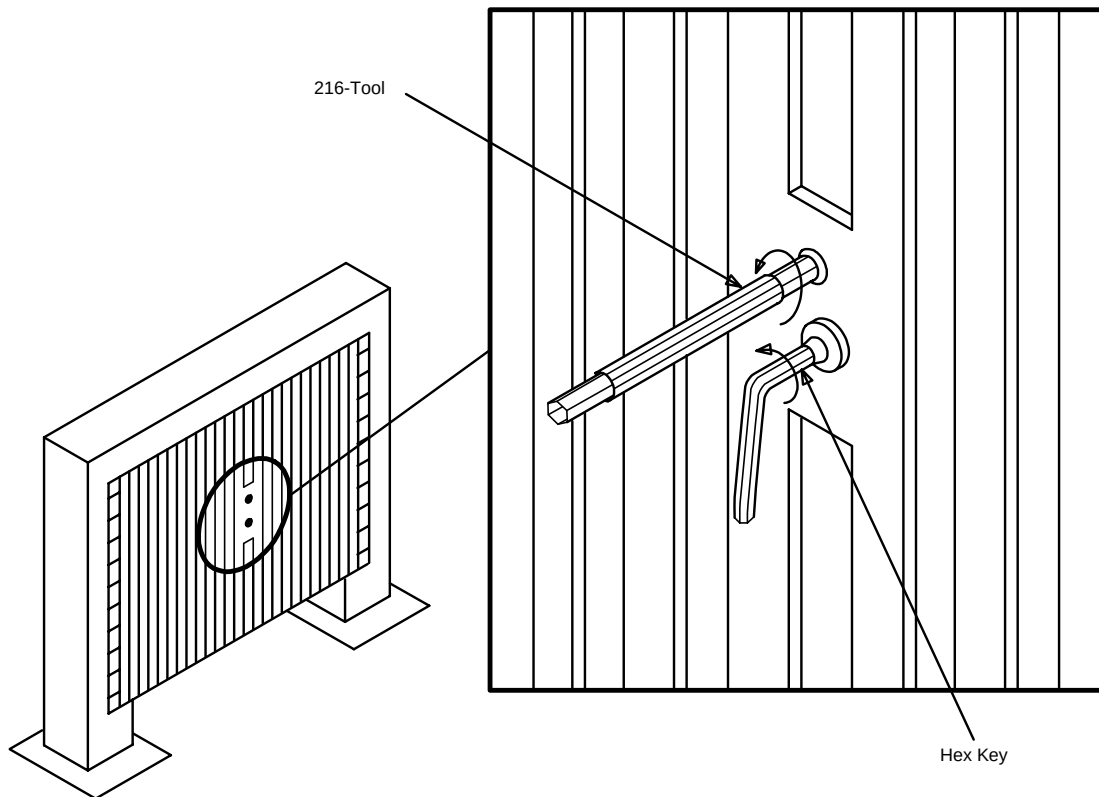

Figure 1 – Opening a Typical Cabinet with Hex Key and 216-Type Tool
2. Determine whether the cabinet requires the special hex key and 216-type tool shown in Figure 1:
Requires hex key and 216-type tool	a. Obtain the special hex key and the 216-type tool shown in Figure 1. b. Using the tools, open the cabinet door as shown in Figure 1. c. Continue with Step 3.